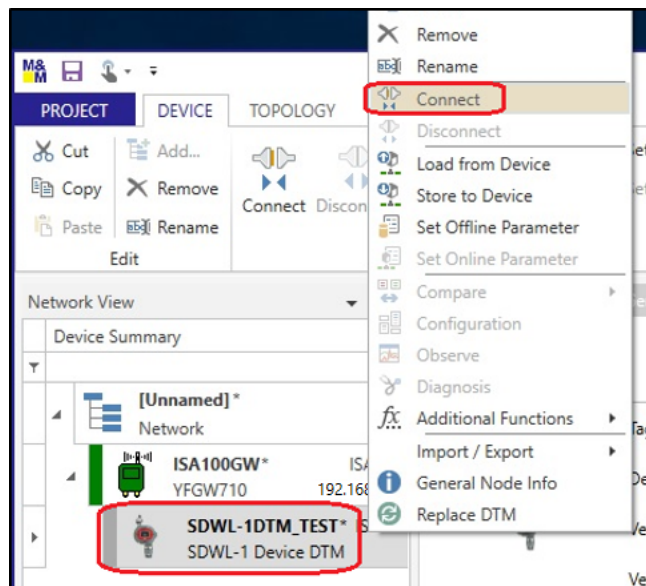

Figure 5-50 Connecting to SDWL-1
- ⑫ The SDWL-1 with the device tag edited is added to the tree menu on the left side of the main window. Right-click, then select "Connect" to connect to the SDWL-1. (Figure 5-50)